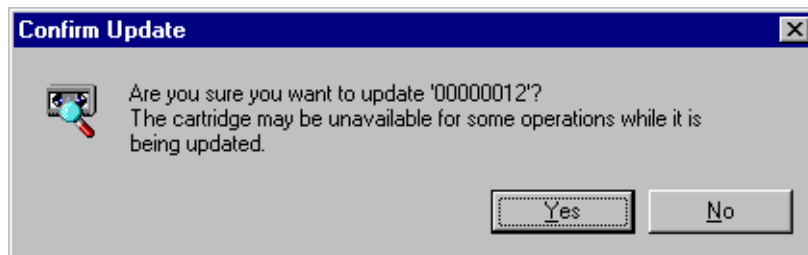

Figure 65. Confirm Update dialog box
2. On the **File** menu, or from the shortcut menu with a right-click, click **Update**. Since the update takes several minutes to complete, you are asked to confirm the operation, as shown in Figure 65.